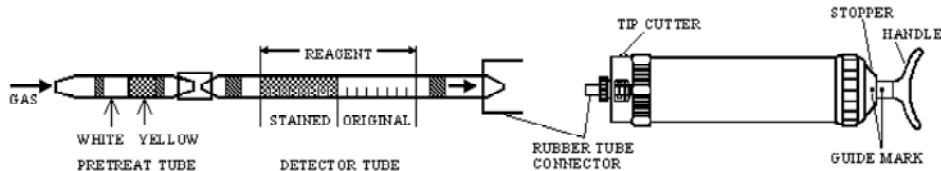

Fig.1
- ① Break both ends of detector tube and pretreat tube, and connect each end of the detector tube and pretreat tube with rubber tube connector as shown in Fig.1.
- ② Insert the detector tube into aspirating pump securely as shown in Fig.1 (Arrow mark shall point to the pump.)
- ③ Align the guide marks on the shaft and stopper of the aspirating pump.
- ④ Pull the pump handle at full stroke until it locks and wait for 2 minutes or until the completion of sampling is confirmed with the flow indicator of the pump (See descriptions about the flow indicator in the instructions of the pump).
- ⑤ On completion of sampling, read the scale at the maximum point of the stained layer